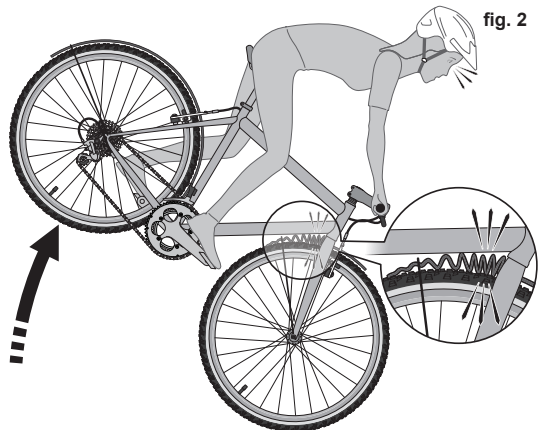

fig. 2
**WARNING: Any object that unexpectedly and abruptly stops the rotation of the front wheel can cause the bike and rider to pitch forward (fig. 2), which can result in serious injury or death.**